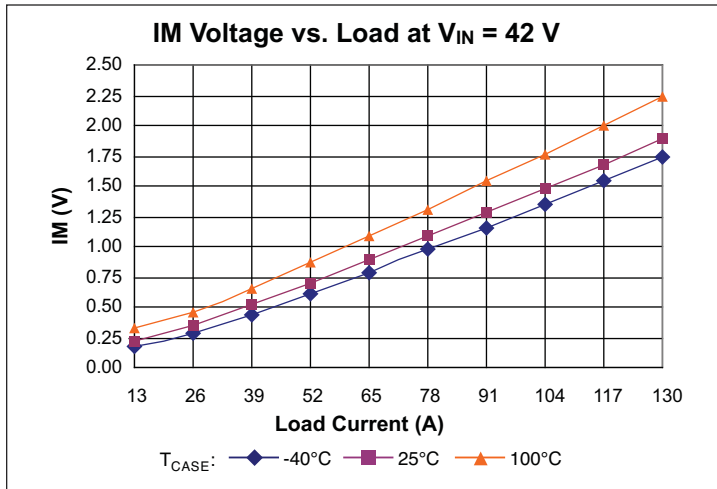

Figure 11 – IM voltage vs. load
Current Monitor (IM) pin provides a voltage proportional to the output current of the VTM. The voltage will vary between 0.206 V and 1.825 V over the output current range of the VTM (See Figures 11–13). The accuracy of the IM pin will be within 25% under all line and temperature conditions between 50% and 100% load. The accuracy of the pin can be improved using a predictive algorithm based on the input voltage and internal temperature.